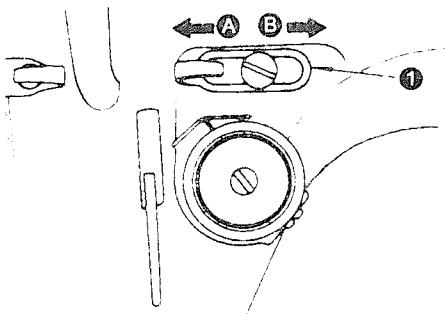

图18 Fig.18
- 1) Loosen setscrew ①, and adjust the presser bar height and the angle of the presser foot.
14. 挑线杆挑线量的调节(图18)
14. ADJUSTING THE THREAD TAKE-UP STROKE (Fig.18)